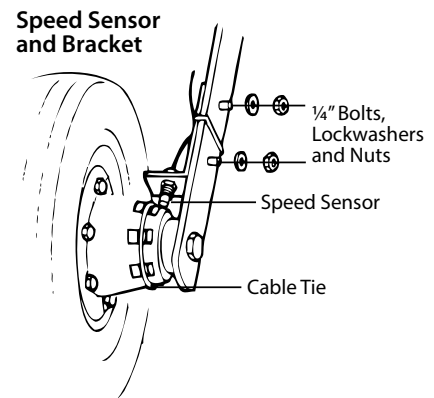

Figure 23
3. Install sensor, adjust to correct spacing ($\frac{1}{4}$ " to $\frac{1}{2}$ " or 6 to 13 mm is recommended), and secure with $\frac{3}{8}$ " locking nuts. See Figure 23.